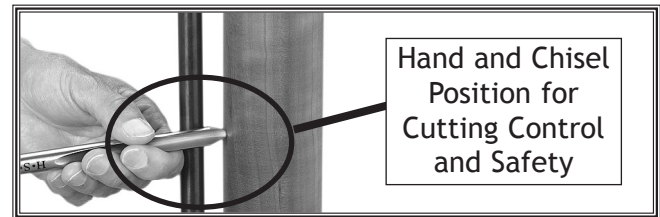

Figure 6. Hand and chisel positioning.
9. Tightly hold the chisel, and position the chisel against the tool rest (see **Figure 6**).